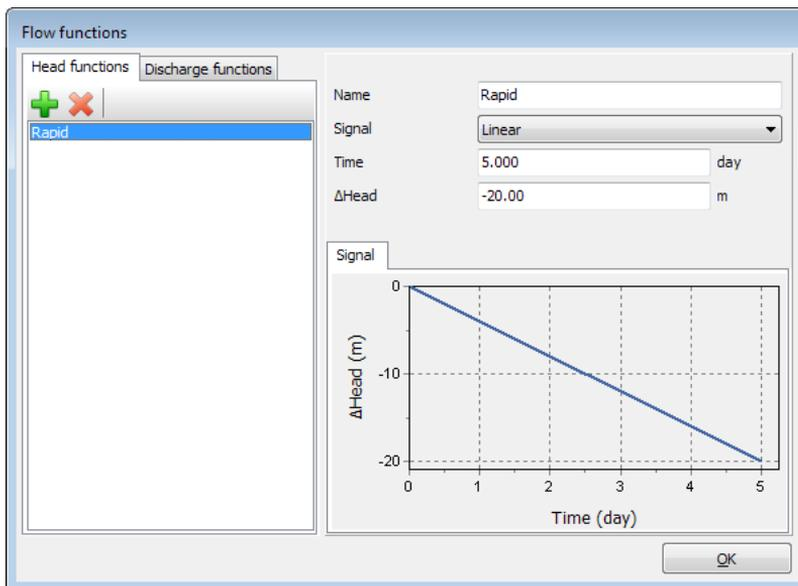

Figure 8.8 The flow function for the rapid drawdown case
- Assign a value of -20 m to $\Delta Head$, representing the amount of the head decrease. A graph is displayed showing the defined function (Figure 8.8).